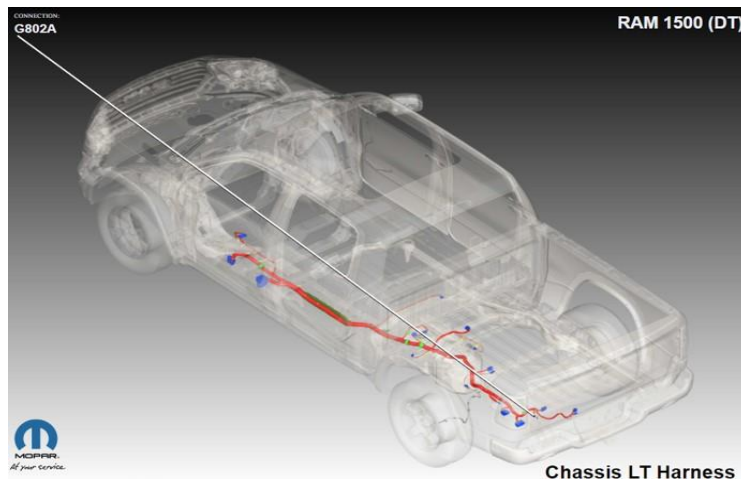

Figure 2.
2. Inspect Ground G802A (see Figure 2.) for loose connections, dirt buildup, or corrosion. Remove, clean, and properly torque the Ground.